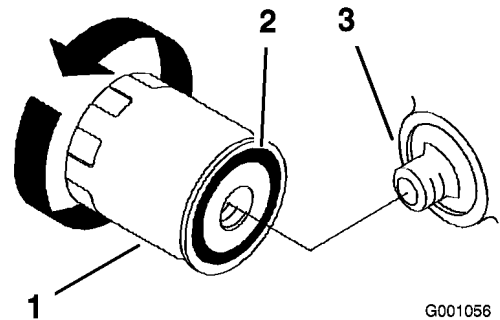

Figure 36
2. Remove the old filter and wipe the filler adapter gasket surface (Figure 36).
5. Apply a thin coat of new oil to the rubber gasket on the replacement filter (Figure 36).
6. Install the replacement oil filter to the filter adapter, turn the oil filter clockwise until the rubber gasket contacts the filter adapter, then tighten the filter an additional 2/3 to 1 turn (Figure 36).